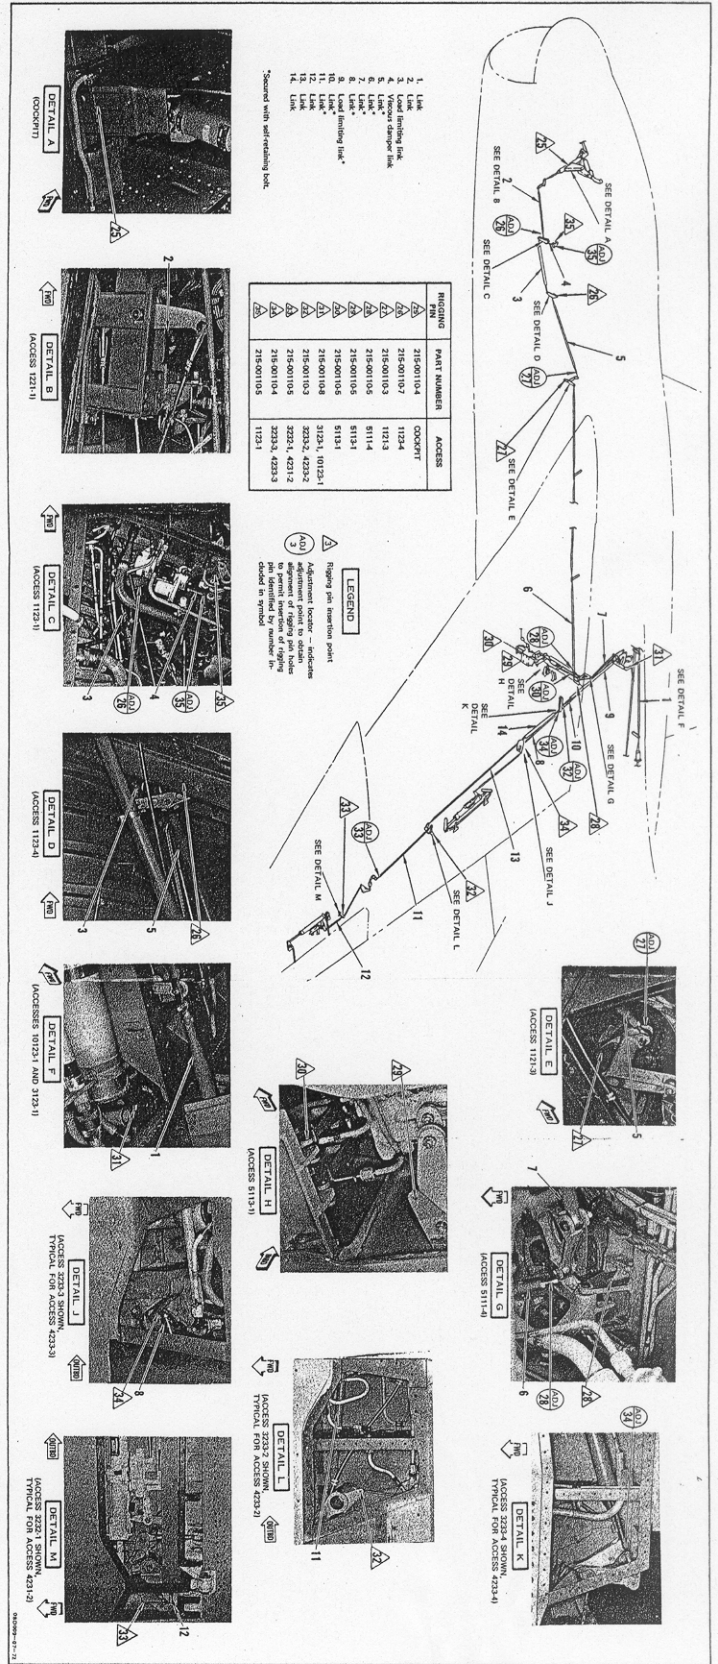

Figure 2-6. Alston Control System Rigging
2-35. RIGGING CHECKOUT. (See figure 2-6.)
See figure 2-6 for rigging pin location.
**2-36. RIGGING LINKAGE FROM CONTROL STICK TO FEEL ISOLATION ACTUATOR AND ROLL AFCS PACKAGE.** (See figure 2-6.)
See figures 2-6 and 2-7 for rigging pin and link locations for following steps.
- d. Disconnect link (7, figure 2-6).
See figure 2-6 for rigging pin locations.
- n. Connect link (7, figure 2-6).